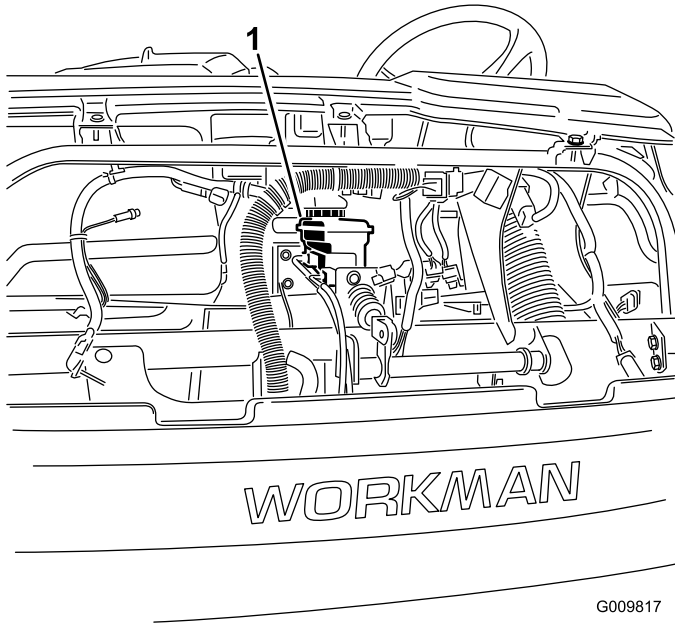

Figure 49
4. Raise the hood to access to the master brake cylinder and reservoir (Figure 49).